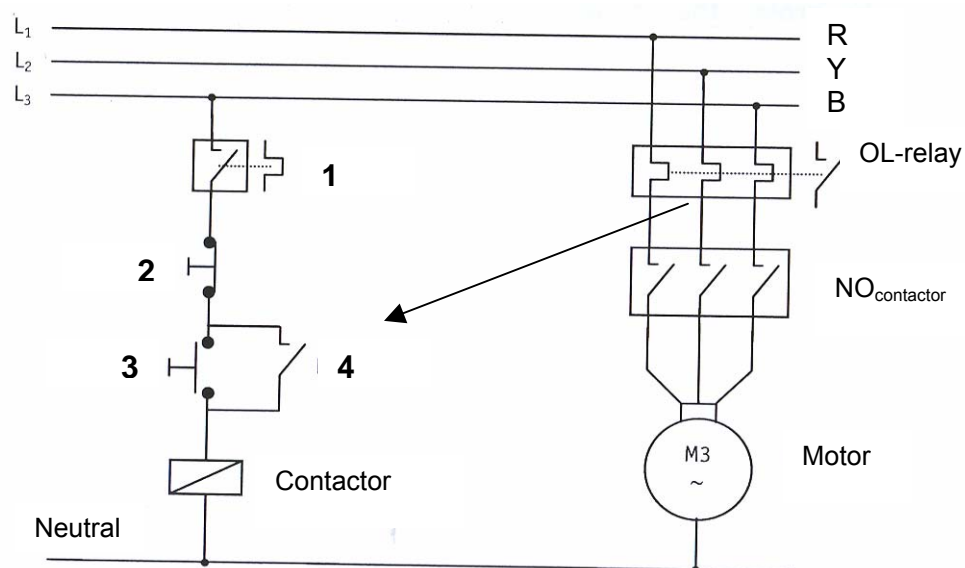

FIGURE 10.2: DIRECT-ON-LINE MOTOR STARTER
- 10.5 FIGURE 10.2 below shows both the main circuit and control circuit of a three-phase direct-on-line motor starter.